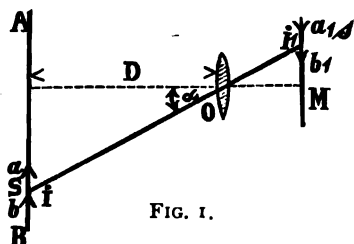

FIG. 1.
Suppose the object to be taken consists of an even surface A.B. (Fig. 1), which at a distance D stands vertical to the axis of the objective ; a. b. is an element of the surface and  $\alpha$  the angle formed by the secondary axis with the principal axis of the objective. If further  $\delta$  is the diameter of the diaphragm, the effective opening is nearly equal to  $\frac{\delta^2}{4}$ (2) and the number of light rays, falling during the time-unit upon the objective: